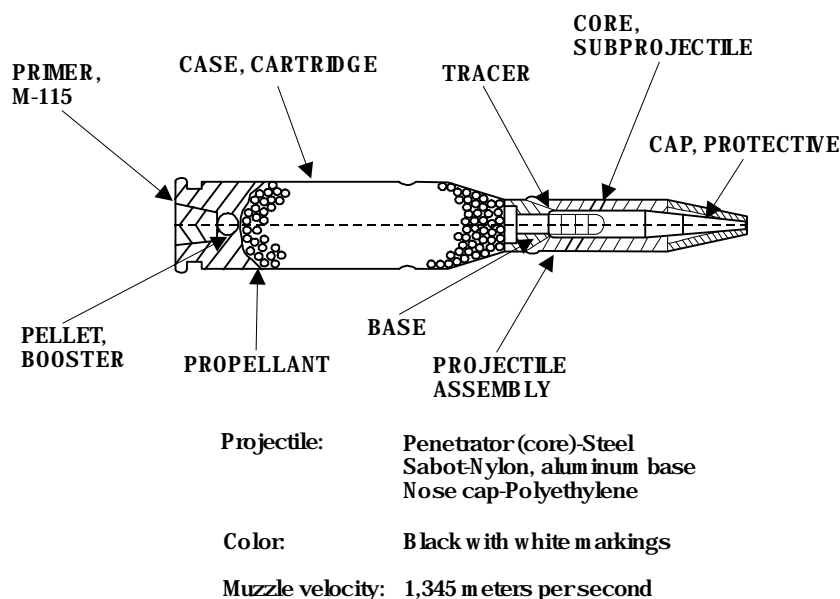

Figure 1-6. M910 Target Practice Discarding Sabot With Tracer (TPDS-T).
(4) M910 Target Practice Discarding Sabot With Tracer (TPDS-T). The M910 TPDS-T cartridge (fig. 1-6) allows units to practice sabot engagements on limited distance ranges. TPDS-T is ballistically matched to the APDS-T, but instead of the 14,572 meter maximum range for APDS-T, the maximum range is 8,000 meters.